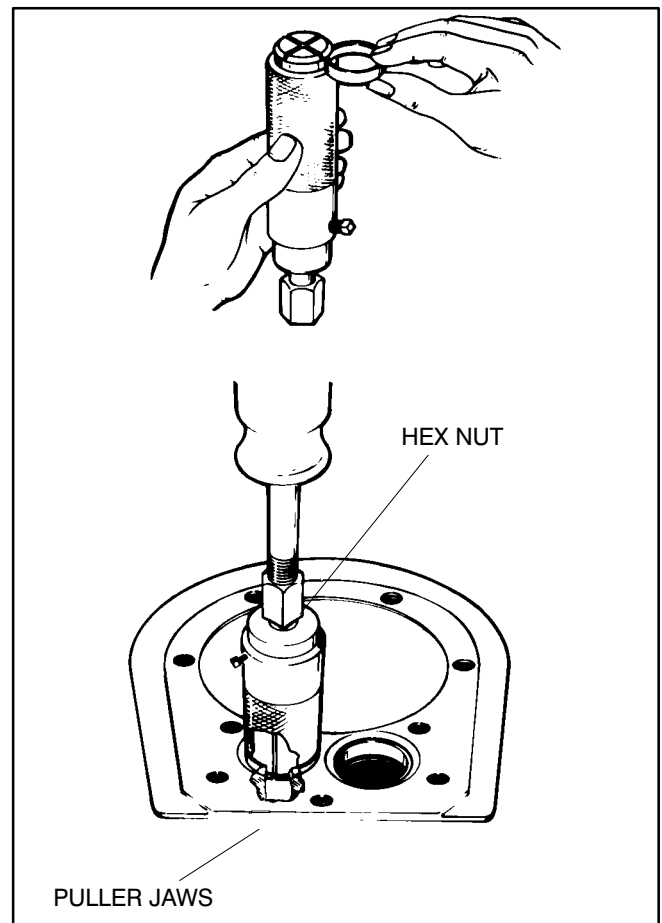

FIGURE 7-10. VALVE SEAT REMOVAL
2. Select the proper size puller (determined by the inside diameter of the valve seat). The puller jaws must expand into the cylinder block at the point where the bottom of the valve seat insert rests on the cylinder block (Figure 7-10).